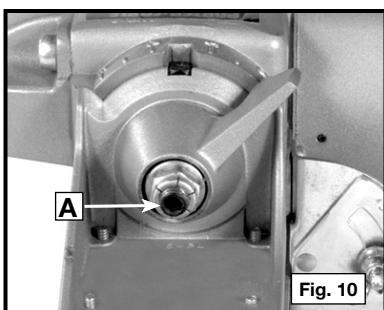

Fig. 10
Tighten or loosen the nut (A) Fig. 10 at the front of the depth adjusting lever until the right tension is found. Be sure that the lever is not too loose and can hold its setting for the full length of cut.